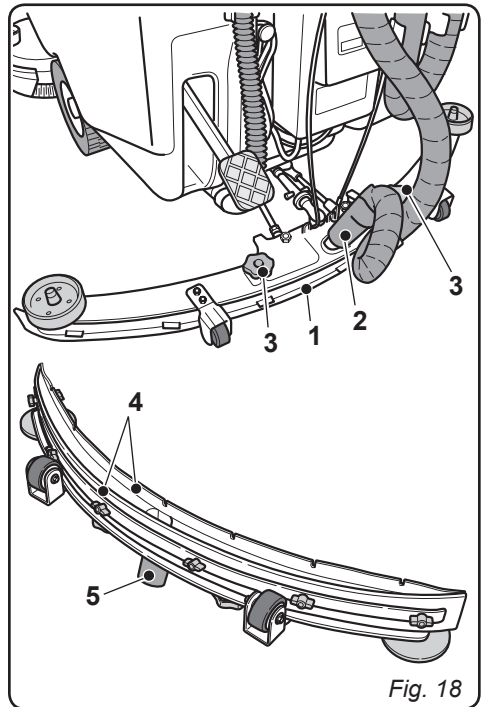

Fig. 18
10.1.c - Cleaning the squeegee**(Fig. 18)**